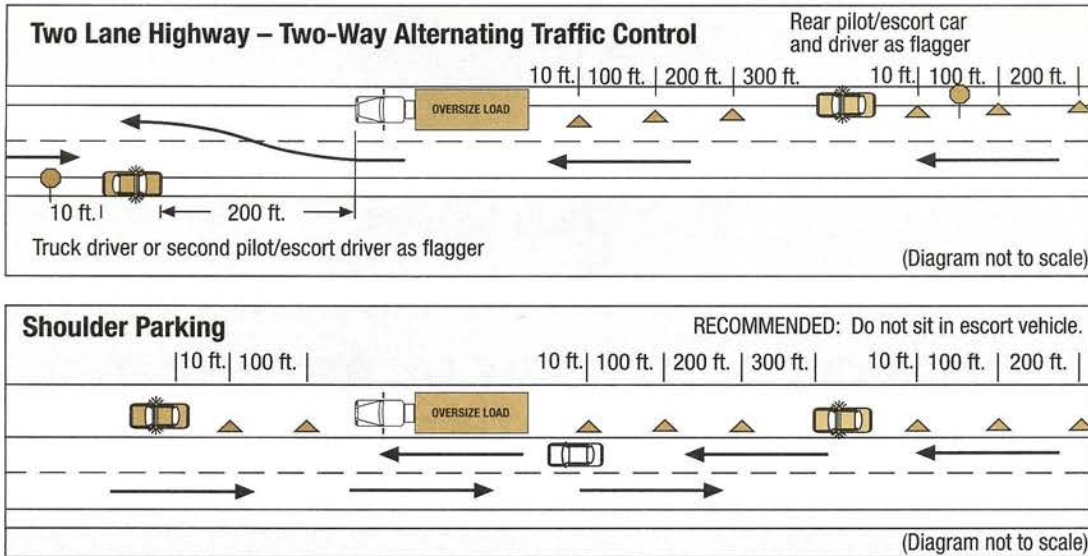

FIG. 6.3-1 WARNING DEVICE SET-UP FOR BREAKDOWNS ON TWO LANE ROADS
- For accidents or breakdown on two-lane roads: (See Figure 6.3-1)